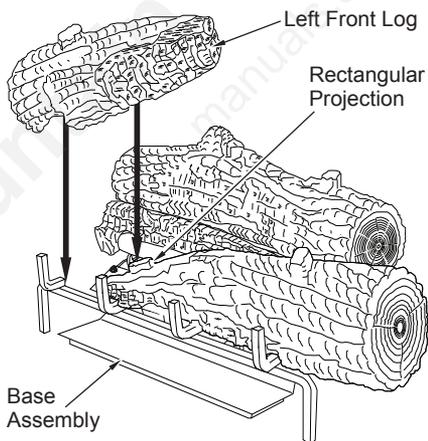

Figure 59 - Installing Left Front Log
4. Place the left front log onto the base and the right front log as shown in Figure 59. The left front log has a notch on the bottom that will line up with the projection on the right front log.